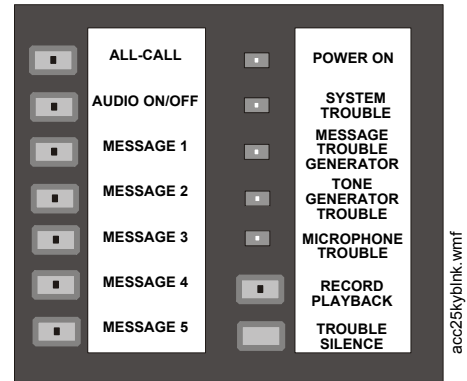

Figure 4.1 Controls and Indicators Single Zone Operation
Figure 4.1 depicts Single Zone operation with the maximum capacity of five messages. Single Zone may be configured for two to five message control (refer to Section 2, "Field Programming" on page 32).
4.4.1 LEDs Visible with Backbox Door Closed (Figure 4.1 on page 62)